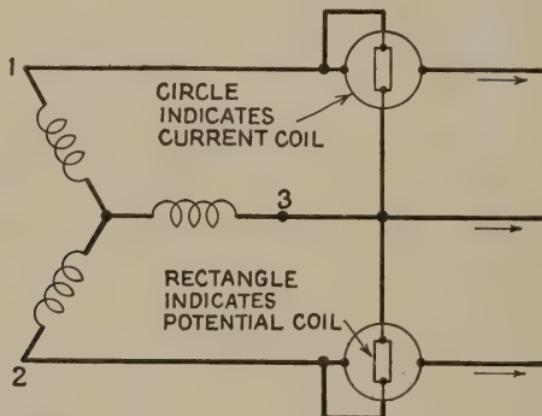

FIG. 4-1.—Three-phase wattmeter connections.
**Ans.** Two wattmeters are generally used to measure the power in a balanced three-phase Y- or delta-connected network. The algebraic sum of the readings of the two wattmeters, if properly connected, gives the true power reading. Figure 4-1 illustrates the connection method.